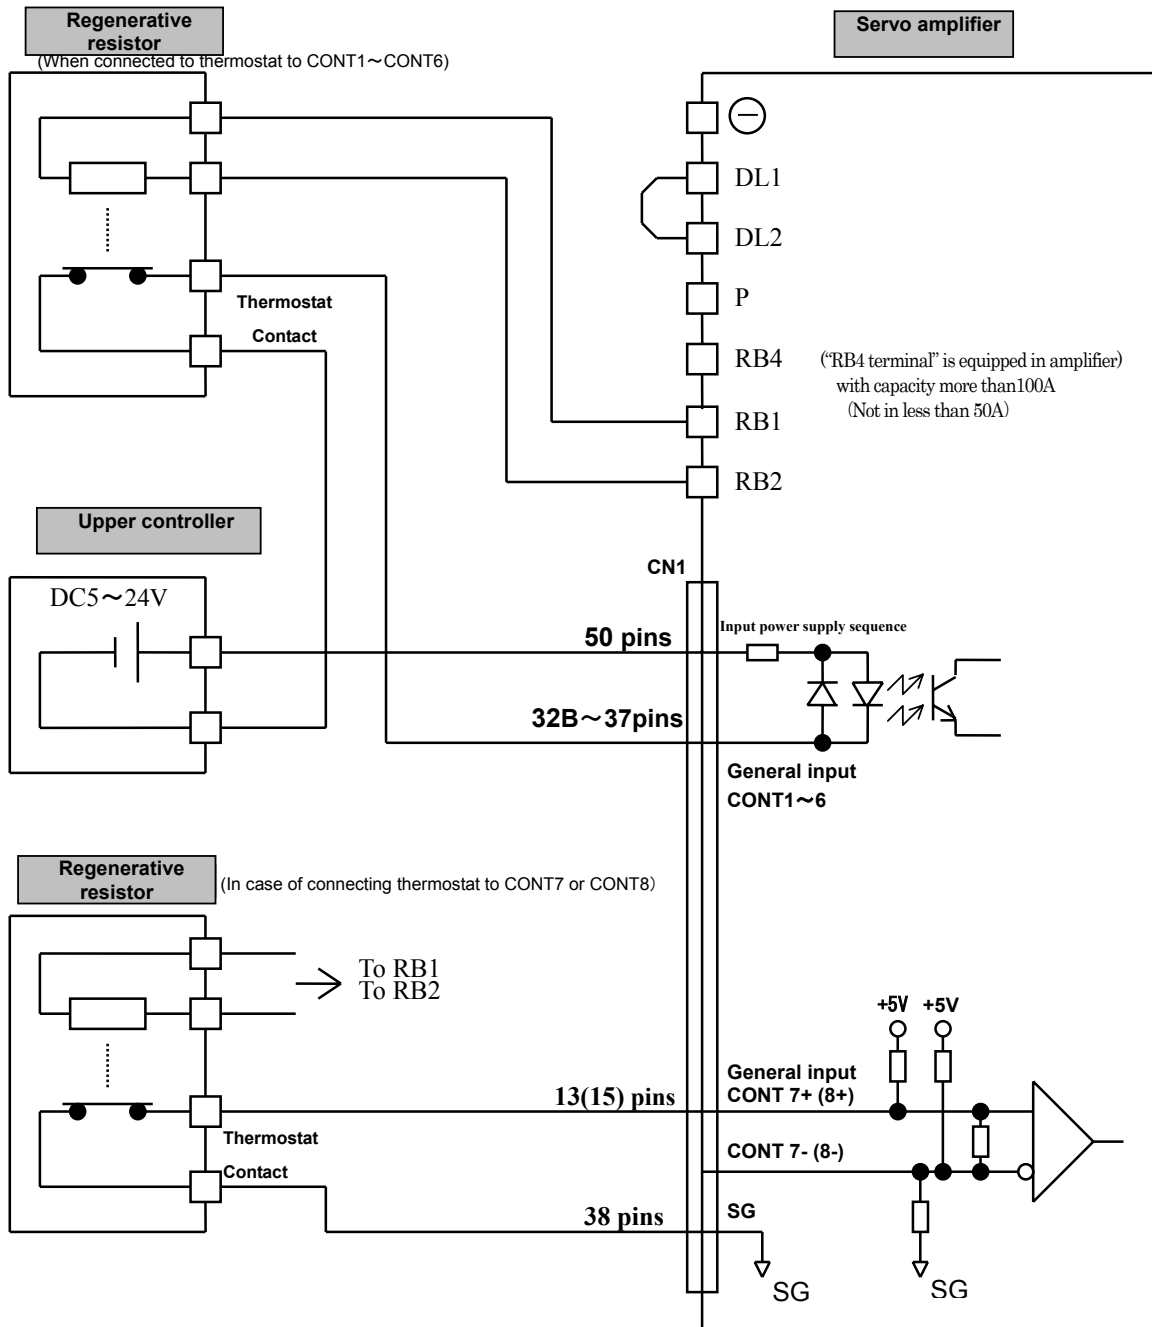

Figure 11-8 Typical external regenerative resistor connection diagram
2. When using an external regenerative resistor with a built-in thermostat, connect the amplifier as shown in Figure 11-8, or maintain resistance by inserting the thermostat contact point output in the upper controller.